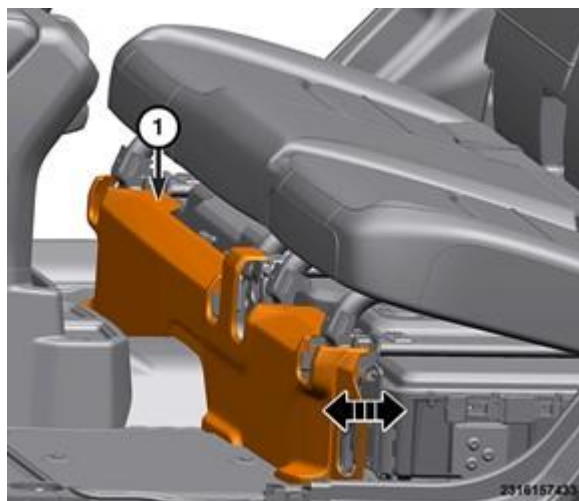

Figure 18 – HV Battery Front Trim
28. Using a trim stick or equivalent, release the retainers from the front high voltage battery closeout and remove from vehicle (Figure 18).
62. Align and install the retainers from the front high voltage battery closeout to the vehicle (Figure 18).